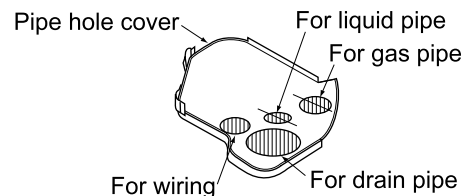

Fig. 24
- Once pipes are rigged, cut the pipe hole cover to size and reattach. Use scissors for cutting. (Refer to Fig. 24) Since there exists a possibility that small animals and insects might get inside the indoor unit, attach the wiring through covers and make sure there are no gaps in the through holes by applying putty or insulation (procured locally.)